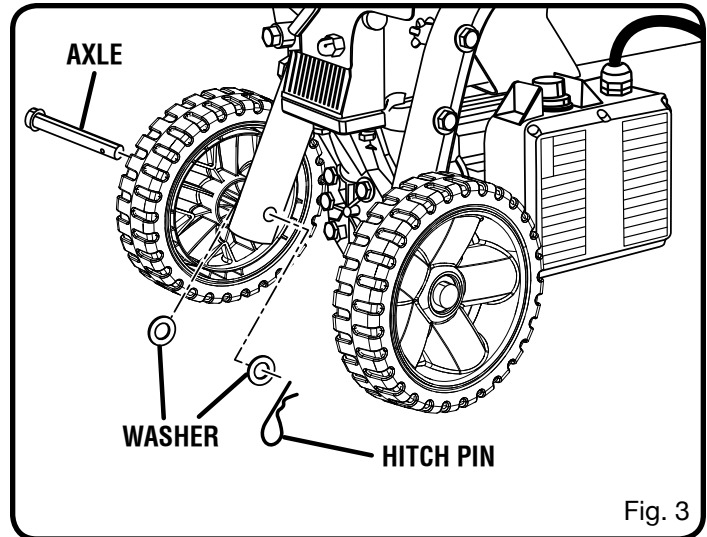

Fig. 3
See Figure 3.
- Next, slide the washer onto the axle. Still lifting the machine, slide the axle/wheel/washer combination into the wheel mounting hole in the machine base as shown in figure 3.